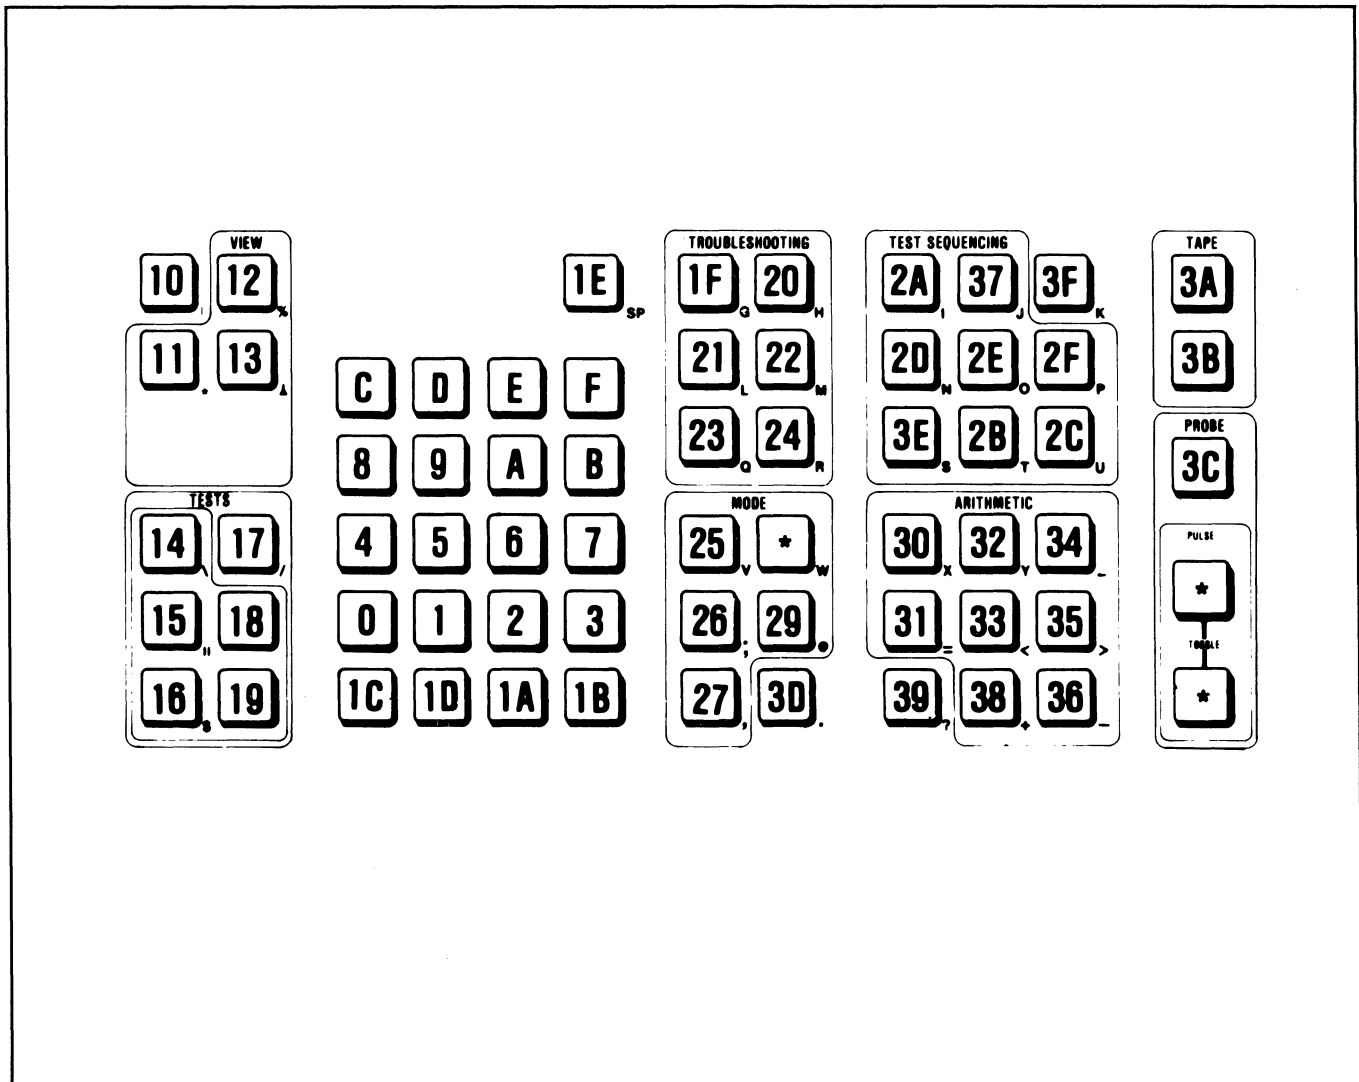

Figure 4-4. Asynchronous Input Values
4. The display reads KEY=. Press all keys except STOP, LOW or HIGH and verify the hexadecimal value is the same as shown in Figure 4-4. Press STOP to exit program.